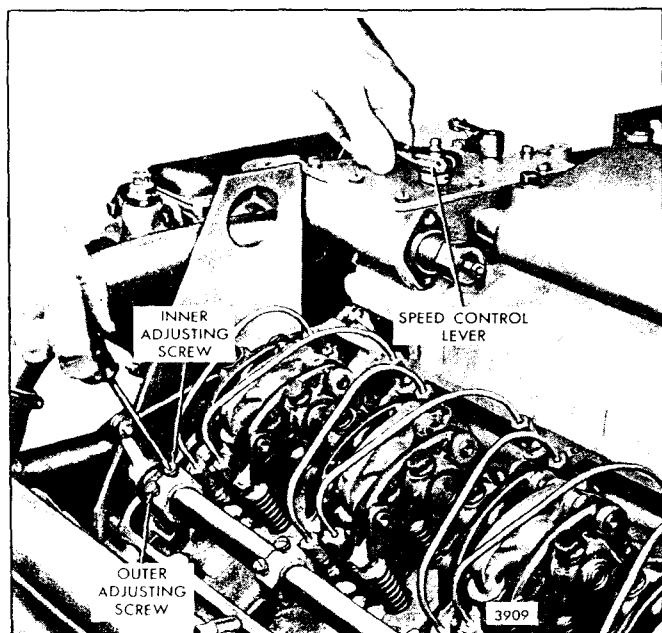

Fig. 10 - Positioning No. 1L Injector Rack Control Lever
6. Move the speed control lever to the maximum speed position; hold it in that position with light finger pressure. Turn the inner adjusting screw of the No. 1L injector rack control lever down (Fig. 10) until a slight movement of the control tube lever is observed or a step-up in effort to turn the screw driver is noted. This will place the No. 1L injector in the full-fuel position. Turn down the outer adjusting screw until it bottoms lightly on the injector control tube. Then alternately tighten both the inner and outer adjusting screws. This should result in placing the governor linkage and the control tube assembly in the same positions they will attain while the engine is running at full-load as previously described.